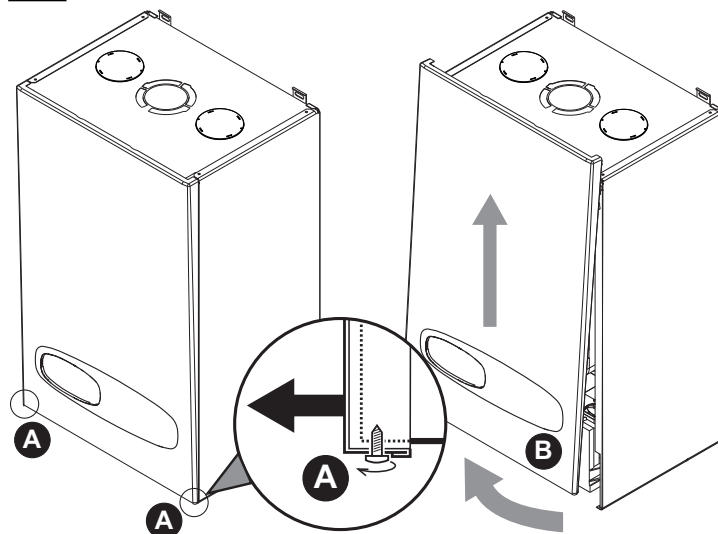

fig. 24 - Front panel opening
1. Partially undo the screws **A** (see fig. 24).